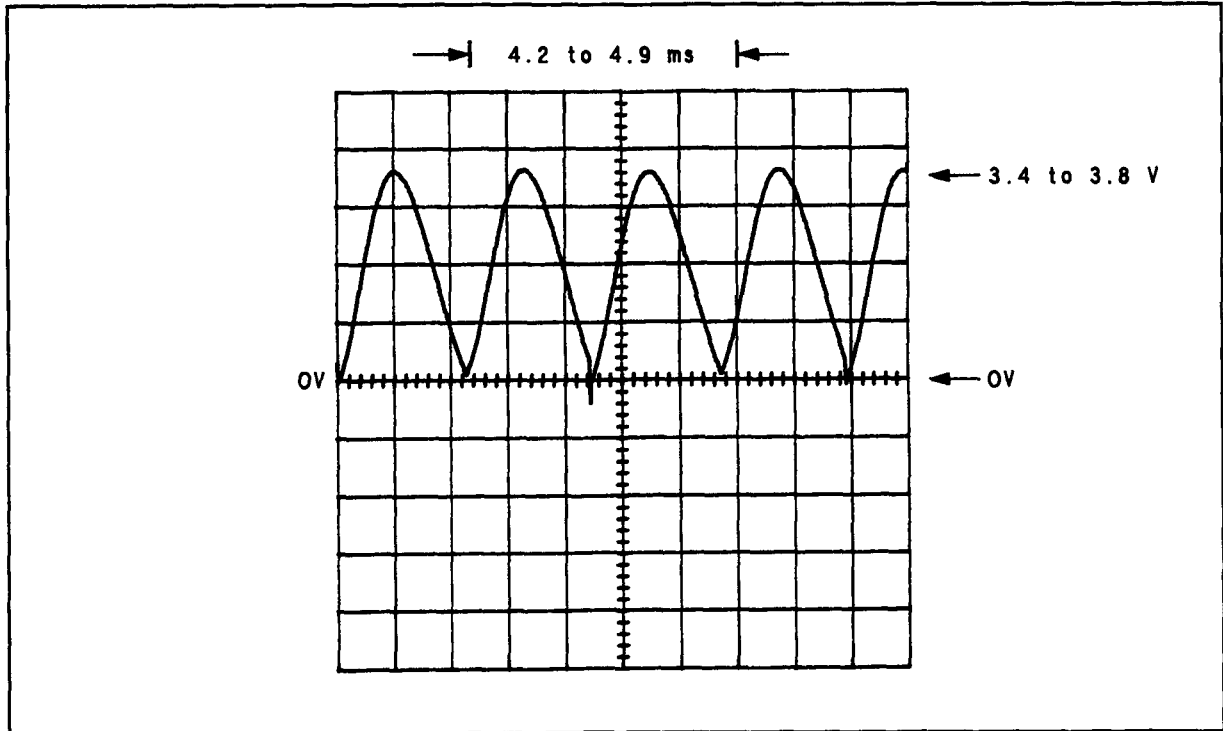

Figure 8F-6. Waveform for √3 Step 3
- Connect a high-impedance, ac coupled oscilloscope to A53TP1 (AC). The display should be as shown in the figure for step 8 of the √2 Amplifier 1, Attenuator 2, Amplifier 2, and Amplifier 3 Check.
- DC couple the oscilloscope and connect it to A53TP2 (Φ DET). The waveform should appear as shown in Figure 8F-6.